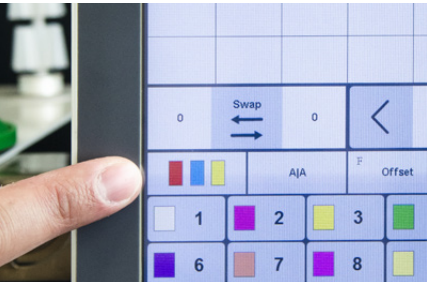

Figure 93
1. In the color sequence settings menu, select the color selection icon represented by three colored rectangles. **See Figure 93.**